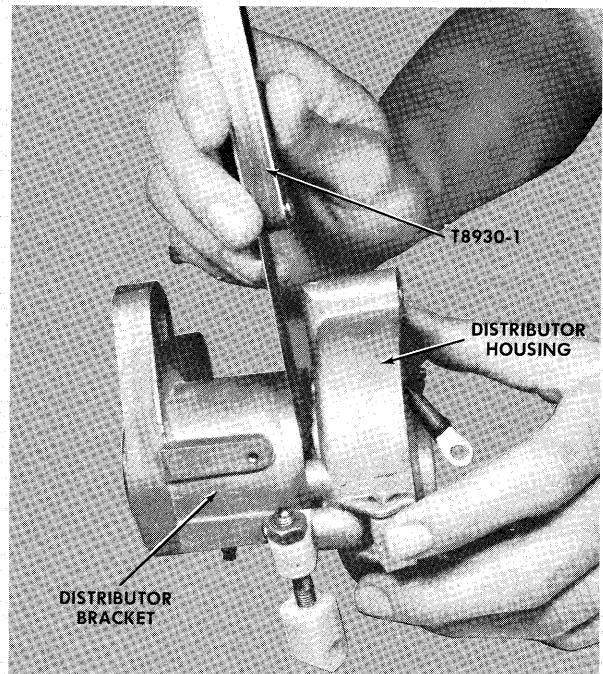

Figure 7 – Measuring Clearance Between Housing and Bracket
- C. Using feeler gauge set (Special Tool T8930-1), determine clearance between distributor housing and distributor bracket as shown in figure 7. Clearance must not be more than .005 or less than .001.